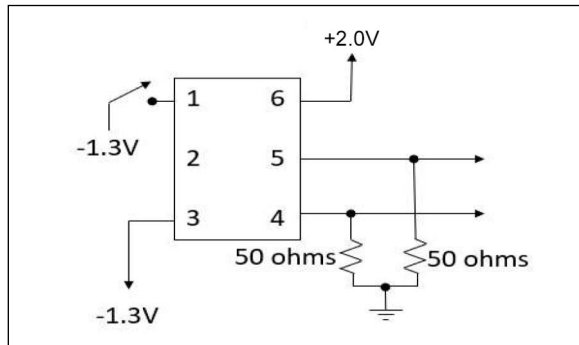
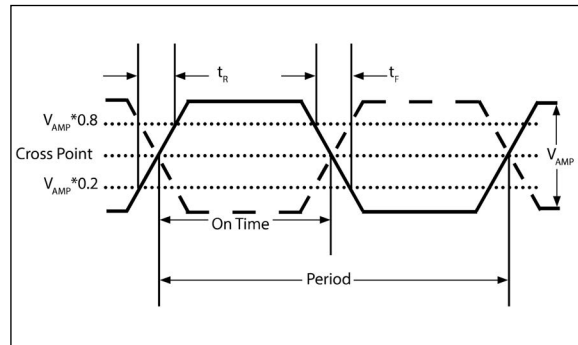
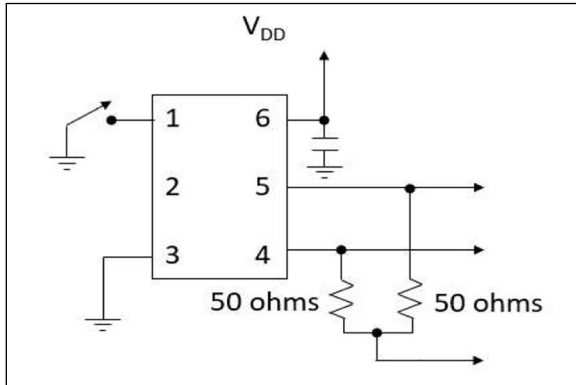

FIGURE 1-1: Test Circuit.
FIGURE 1-2: Output Rise/Fall Time.
FIGURE 1-3: LVDS Test Circuit.
- 3:** Figure 1-1 defines the test circuit and Figure 1-2 defines these parameters.
Note 3: Figure 1-3 defines the test circuit and Figure 1-2 defines these parameters.
- 3:** Figure 1-3 defines the test circuit and Figure 1-2 defines these parameters.